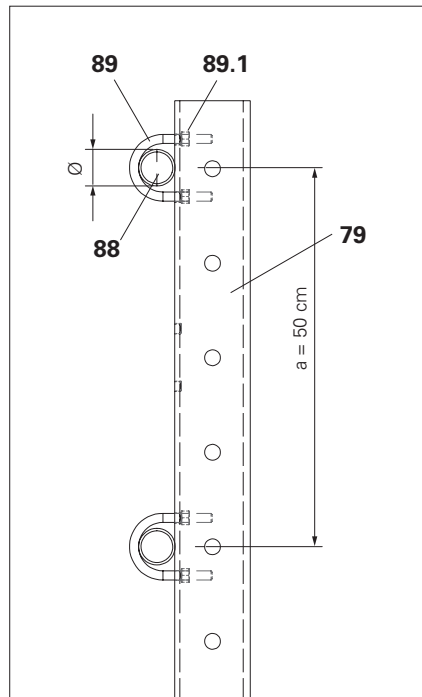

Fig. B5.03
1. Insert scaffolding tubes into clamps A64 DIN 3570 (**89**) and screw them into place on the inside with hex. nut ISO 4032 M12-8 (**89.1**), for example onto the guardrail posts (**79**). (Fig. B5.03)